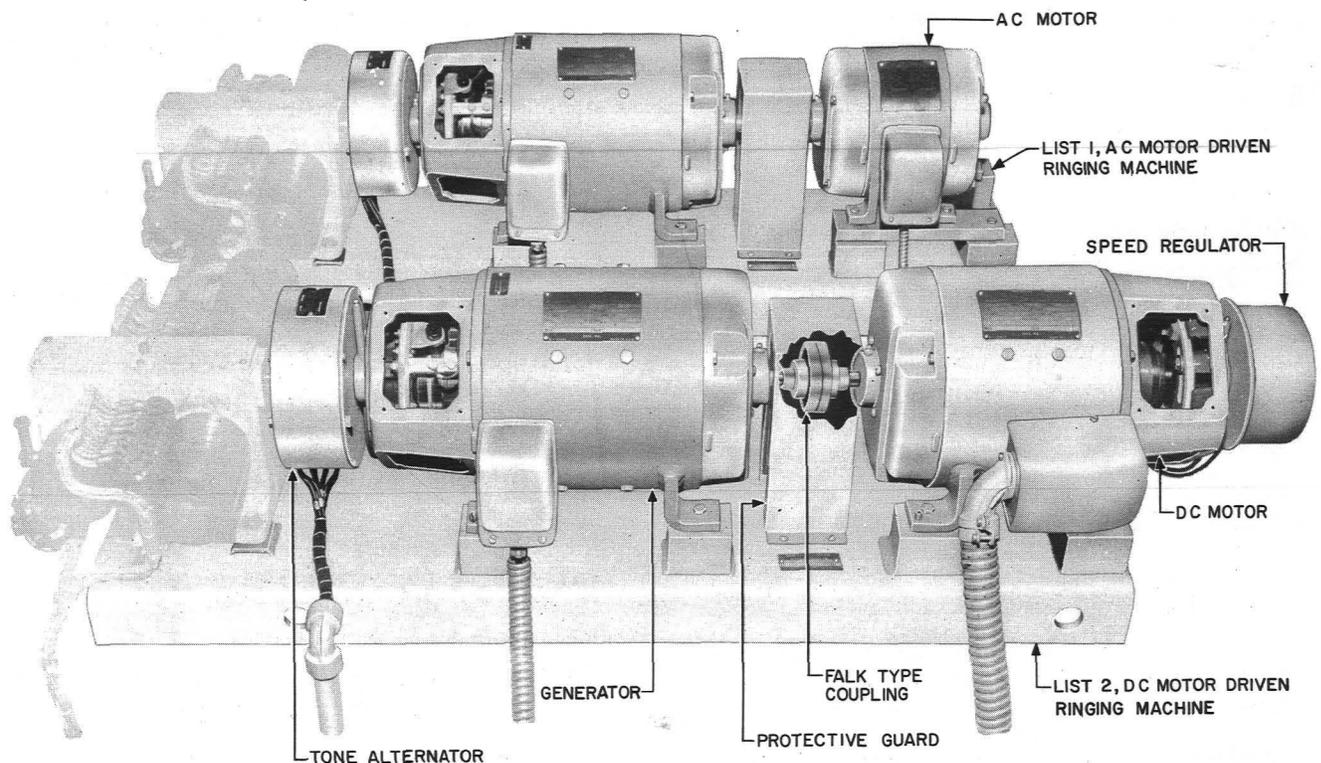

Fig. 1 - KS-15816 Ringing Machines
1.01 This section covers apparatus requirements and adjusting procedures for the KS-15816 Motor-driven Ringing and Coin Control Generators (see Fig. 1). These sets have separate motors, either ac or dc, and generators connected by flexible couplings.